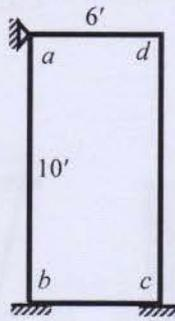

Fig. 9
9. Calculate 1st natural frequency of the frame  $abcd$  shown in Fig. 9 using consistent mass matrices (neglecting axial deformation)